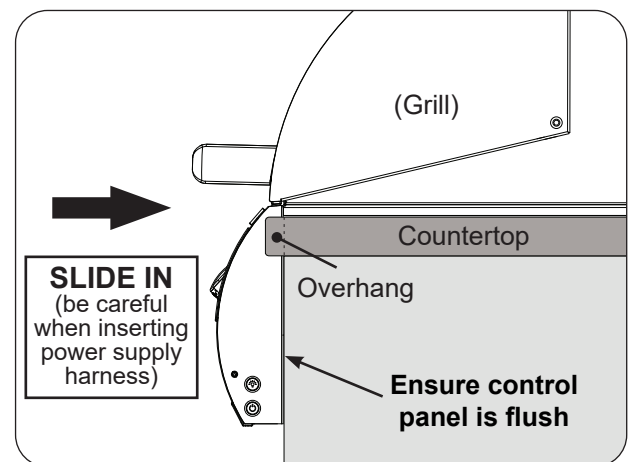

Fig. 29-3 Slide in unit (ensure flush)
- Ensure the unit fully slides in so that the control panel sits flush against the enclosure front wall. See the COUNTERTOP OVERHANG section in ENCLOSURE REQUIREMENTS for details (see Fig. 29-3).